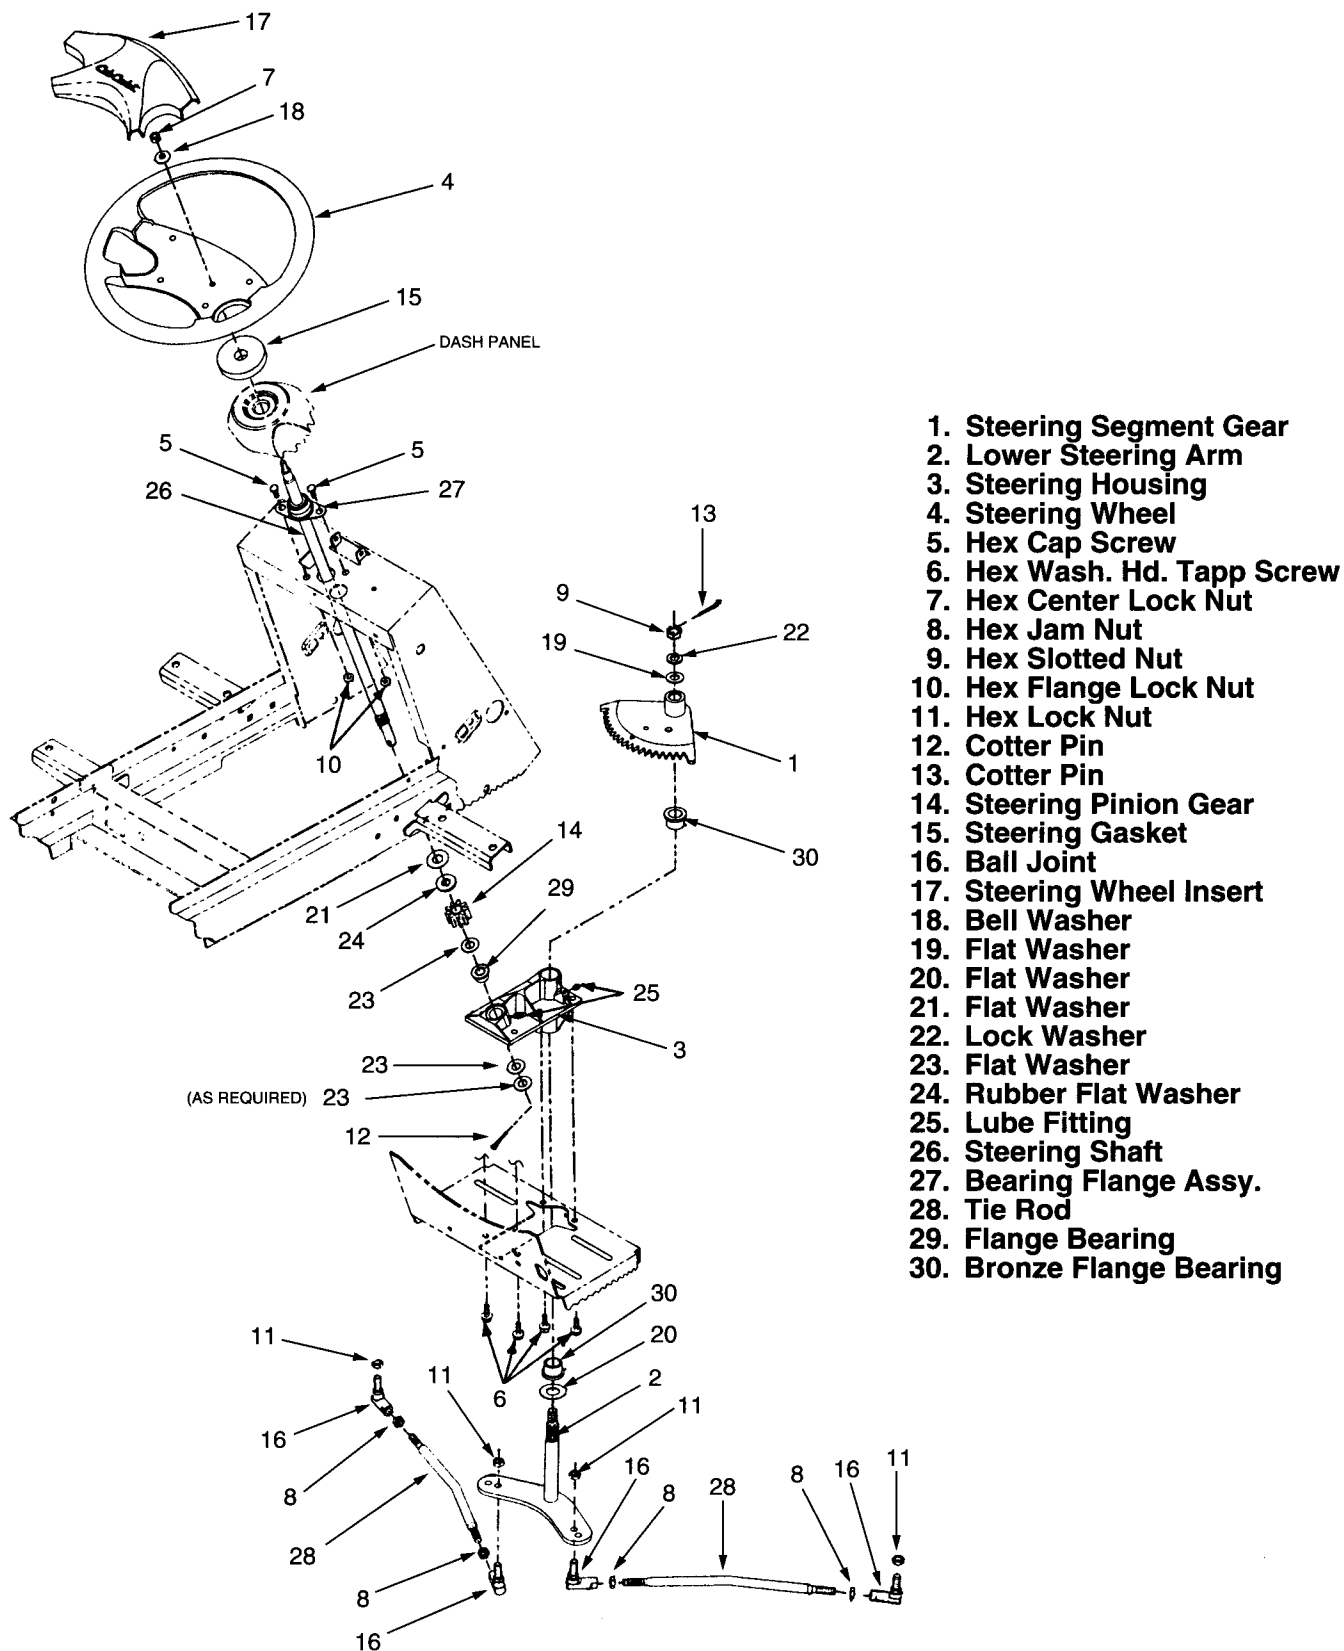

Figure 5-17. Steering Assembly (All Models).
- a. Removal of the lower steering shaft bearing from the steering housing (3, Fig. 5-17).
- b. Addition of the rubber flat washer (24, Fig. 5-17).
3. To improve access to the upper bearing flange assy. (27, Fig. 5-17), release the parking brake, then remove the internal cotter pin and clevis pin (20 and 16, Fig. 5-22) securing the parking brake lever (24) to the pedestal.
4. Remove the steering wheel insert (17, Fig. 5-17) by pulling straight upward from the steering wheel (4).
5. Remove the steering wheel (4) as follows:
- a. Loosen the hex center lock nut (7) until it is flush with the top of the steering shaft (26).